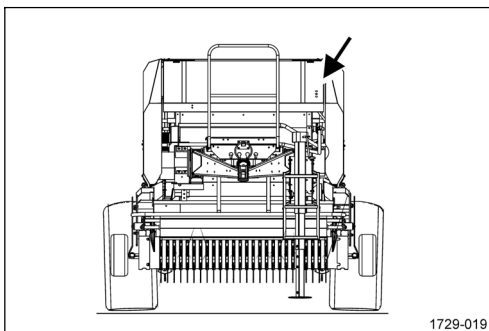

Figure 6
- Catch at the front guard casing: Figure 6